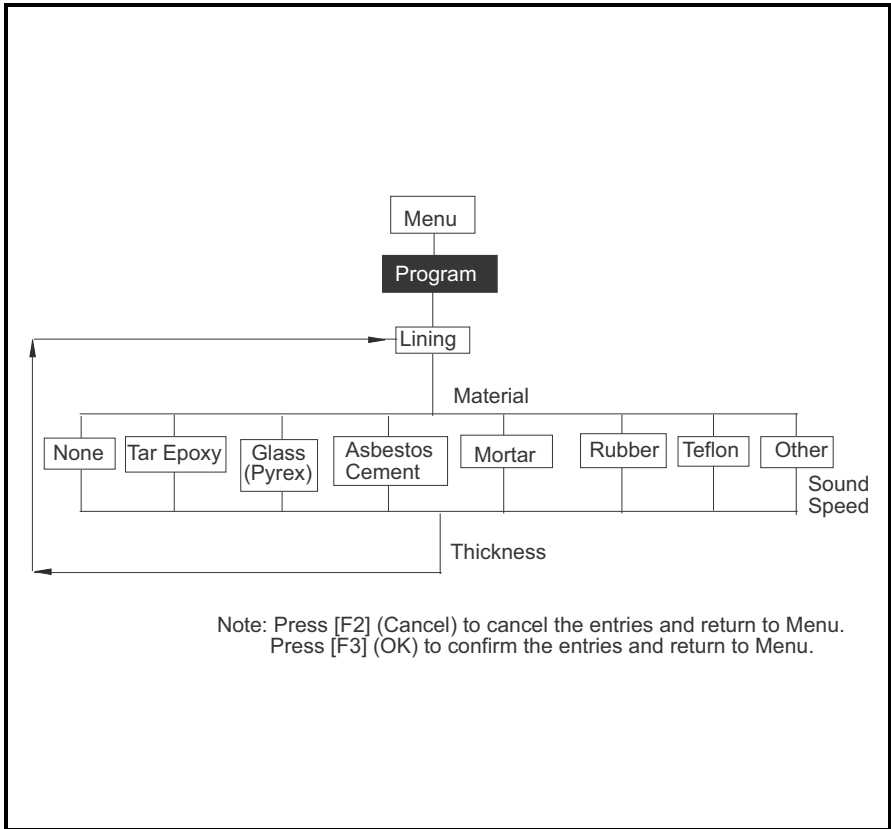

Figure 144: Lining Option
- Lining Option - Figure 144 on page 228